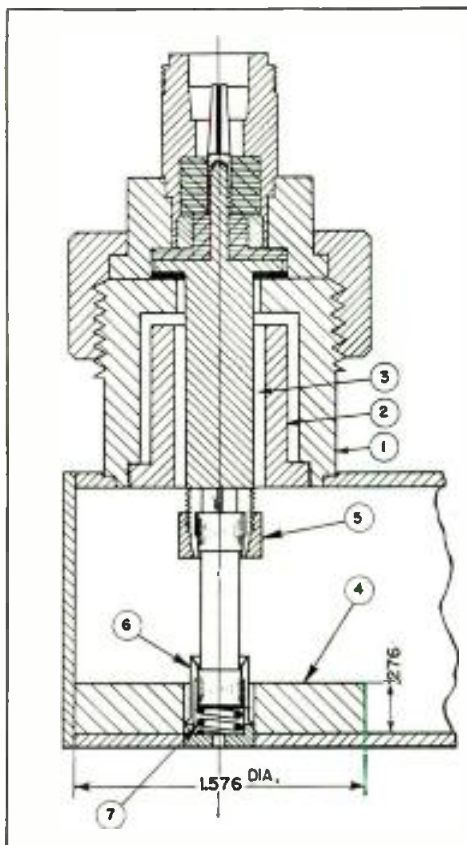
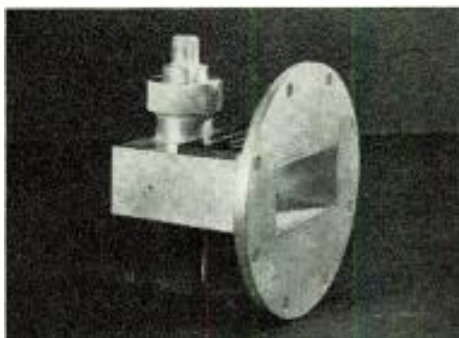

Fig. 4: Cross sectional view of resonant bolometer cavity. See text for details of reference points shown with circled numbers
Fig. 5: Photograph of the bolometer cavity. Connections for the bridge circuit are made with type N connector shown at upper left
Fig. 4 is a drawing of the bolometer cavity that was designed for resonance of a wavelength of 9.4 cms. Items (1) and (2) in conjunction with the stem, (3), comprise a half wave choke which allow DC leads to be obtained from the fuse without RF leakage from the cavity. The dimensions of the "matching" ring, (4), and the position of the end plate are two interdependent parameters which determine the resonant frequency of the cavity. (For this particular cavity the optimum position of the end plate occurred at the point of contact with the "matching" ring.) Good contact is assured by the nut, (5), which tightens the slotted contact fingers on the fuse cap, and by the socket and spring assemblies represented by (6) and (7). This cavity construction provides a convenient method for displacement of fuses and at the same time assures low loss RF connections. A photograph of this cavity appears in Fig. 5.
The end plug position and ring dimensions were simultaneously varied until resonance (as indicated by minimum PSWR) of the cavity was achieved. The optimum dimensions for these parameters were found to be as indicated in Fig. 4. The reflection characteristics of this